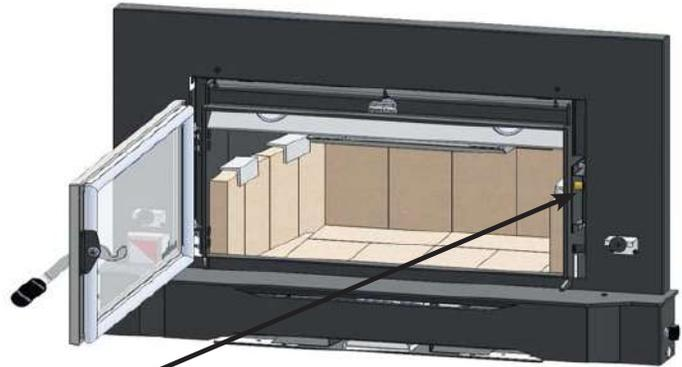

Fig. 17
2. To tighten the door tension use a 7/16" wrench to loosen the two nuts on the latch cover. Slide the latch cover towards the back of the stove and tighten nuts. **(Fig. 17)** Repeat paper test (see "LOADING DOOR GASKET INSPECTION" on page 36).